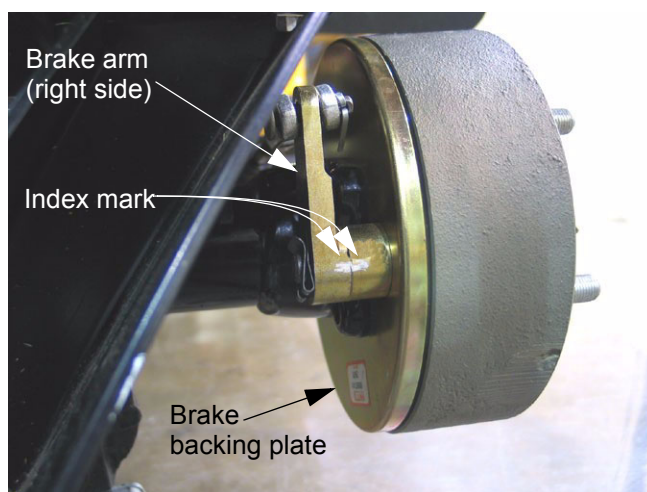

Figure 2.5
- 2.5. If the brake arms are not in this position, they must be re-oriented: make an index mark with a paint stick or marking pen across the brake lever and the boss that it rests against brake backing plate. This will establish the original position. See Figure 2.5.